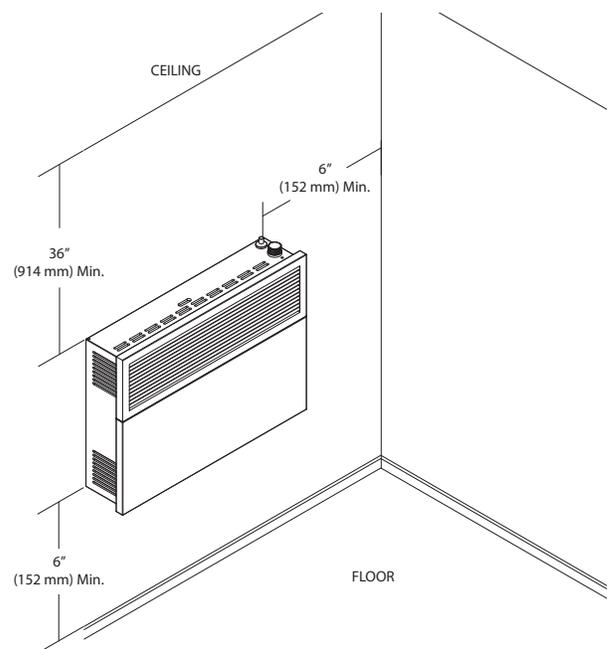
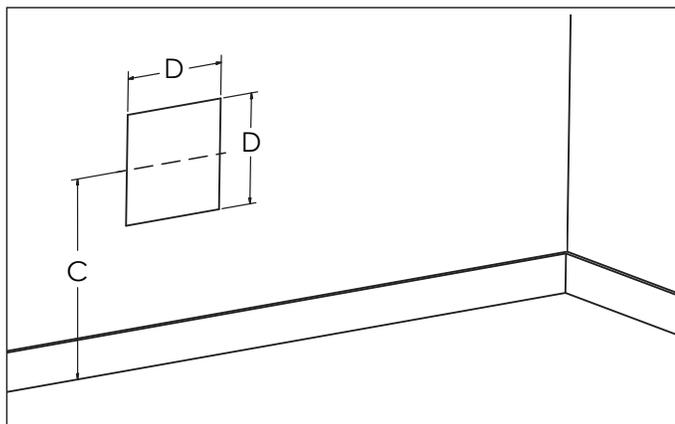

Figure 6
Figure 11
2. Draw the position of the hole for the air-vent intake pipe, taking into account the minimum clearances mentioned in Figure 6. See the dimensions of the square hole "D" and height to the center "C" in Table 1 and Figure 11 for the different models. Height "C" is the minimum recommended.